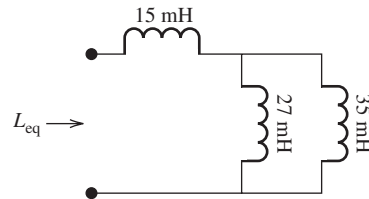

FIGURE P4.43 Circuit for Problem 4.43.
4.43 (B)* For the inductor network in Figure P4.43, what is the equivalent inductance, L_{eq} ?